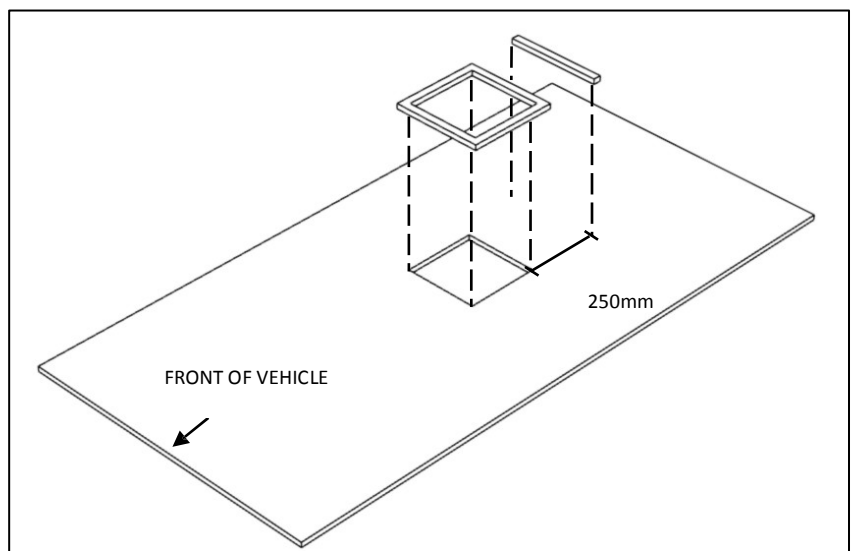

Fig 5: Shows the placement of the roof gasket over the hole.
- Remove the paper backing from gasket and position over square hole. If provided, the second gasket piece is to be located 250mm behind and parallel (Fig 5). This second piece is already installed to the underside of units manufactured after May 2012
- Gasket must be applied with self-adhesive side down. Note orientation of gasket to direction of travel (Fig 5). Press gasket down to ensure good adhesion.